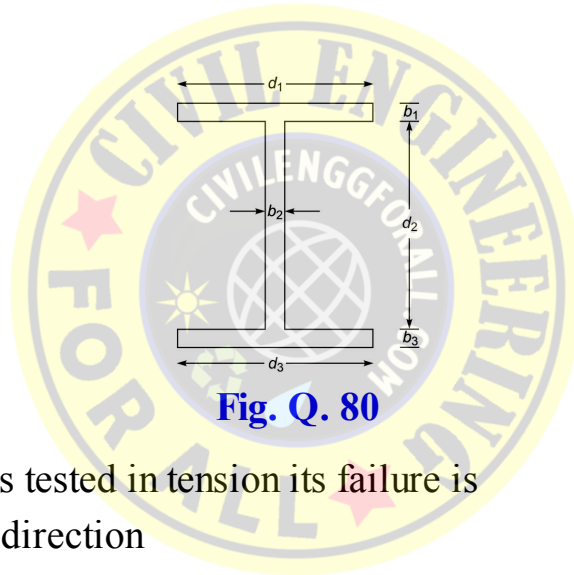

Fig. Q. 80
80. Torsion factor for the built up section shown in the Fig. Q. 80 is approximately equal to